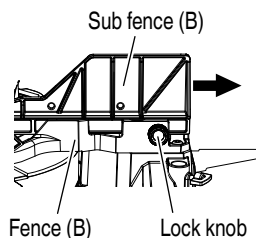

Fig. 17
This power tool is equipped with a sub fence (B). In the case of direct angle cutting and right bevel angle cutting, use the sub fence (B). Then, you can realize stable cutting of the material with a wide back face. When left angle cutting, loosen the lock knob, then slide the sub fence (B) outward, as shown in Fig. 17. When you slide sub fence (B) outward, if enough space cannot be secured or the sub fence (B) comes into contact with other parts of the tool including the lower guard, fully remove sub fence (B) from fence (B).